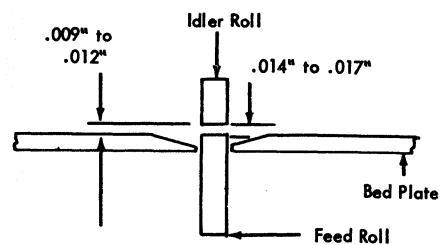

Figure 103. Auxiliary Feed and Idler Roll Adjustment
2. Position idler roll .009-inch to .012-inch above read station bed plate by moving idler roll mounting plate (Figure 103).
- Move magnet assembly up or down mounting bracket to obtain .014-inch to .017-inch clearance between feed roll and its idler roll (Figure 103).